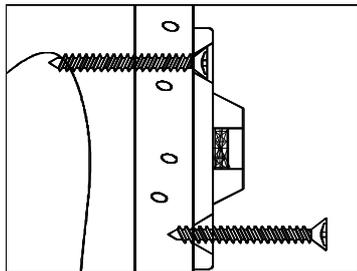
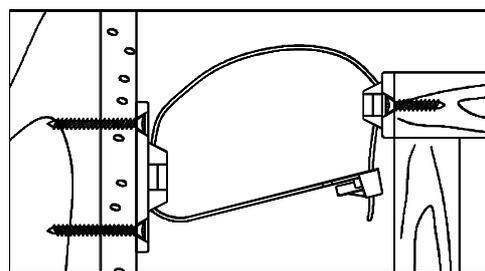

Figure 2
Figure 3
3. Repeat the step 2 to attach the top panel (A), fixed shelf (E) and bottom panel (B) to the right side panel. (Fig. 2)
**3) MOUNTING THE WALL-SIDE BRACKET:** Position the wall-side bracket along the selected stud mark so that it will be adjacent the furniture-side bracket when the furniture item is moved to its final position. The wall-side bracket should be about ONE inch lower than the furniture-side bracket (See Figure 3). Use the TWO Long screws to secure the wall-side bracket to the wall. Remember to position the wall-side bracket vertically so that both screws will engage the selected wall stud (See Figure 2).